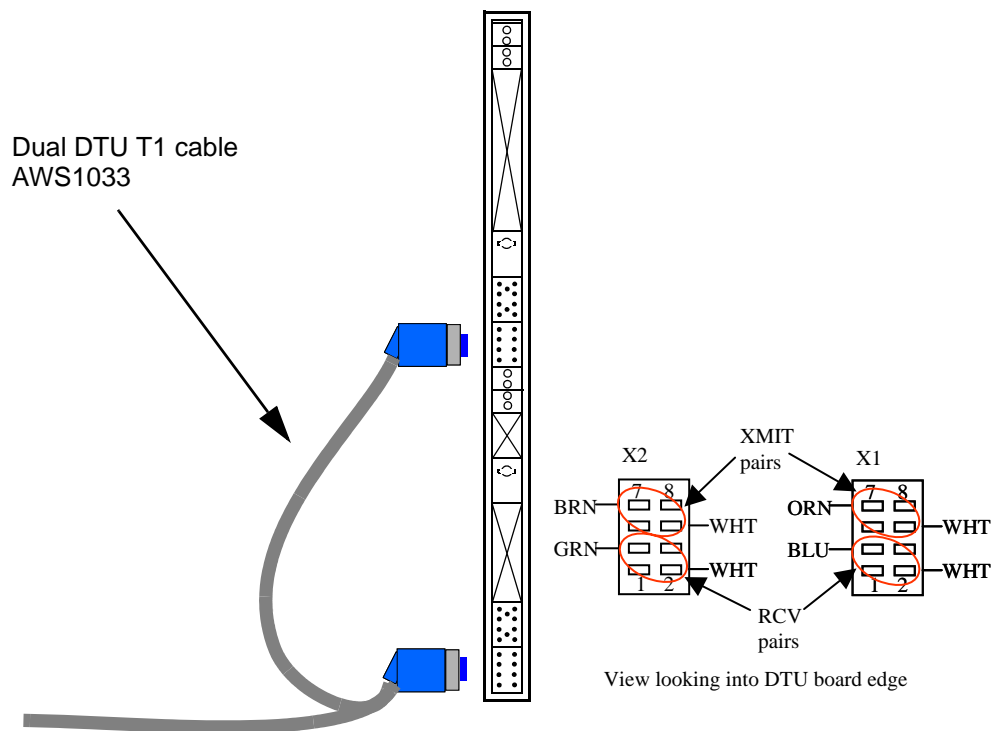

Fig. 22-3 DTC Connections on the DTU-T1
2. Connect the lower X2 plug of the DTU twisted pair cable AWS1033 to the lower connector of the furthest left DTU as shown in Figure 22-3.